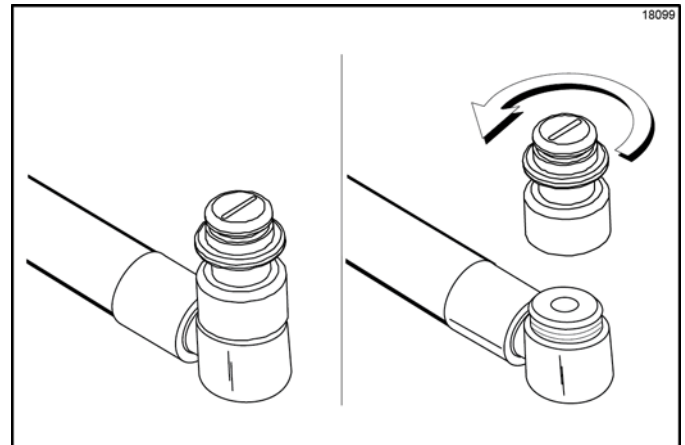

Figure 6-78
8. With the pail still beneath the door, remove the syrup nose fitting from the syrup line fitting by turning it counterclockwise. Hold the syrup fittings in an up position to minimize syrup loss. (See Figure 6-78.)